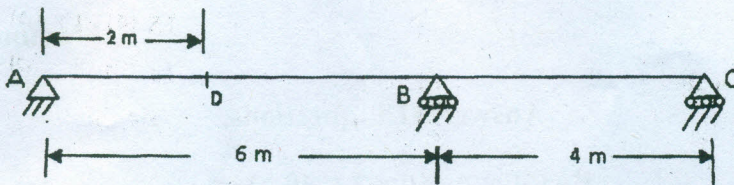

Fig. Q. 12 (a)
12. (a) Using Muller Breslau's Principle, develop the I.L. for B.M. at section D of the continuous beam shown in Fig. Q-12 a. Compute and plot the ordinates at every 1 m interval.